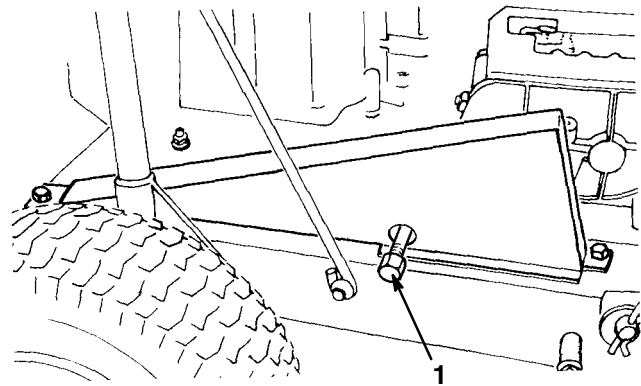

Figure 15
4. Place a drain pan below the drain plug (Fig. 15). Remove the drain plug. Allow all of the oil to flow into the drain pan. When the oil has drained completely, install the drain plug.